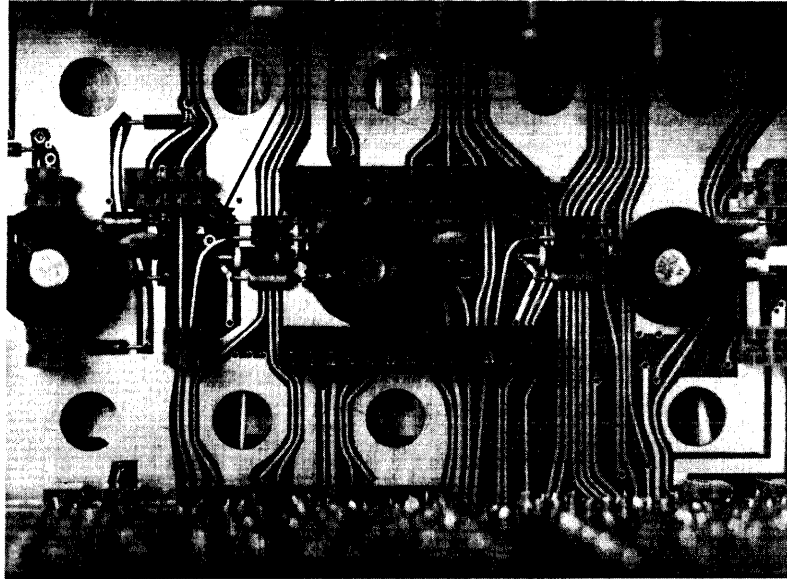

Figure 6.4
4. Connect one end of an 18 inch piece of insulated wire to test point "a" located on the mother board (see Figure 6.4). Thread the wire out between the front panel and the top of the chassis. Make sure the unconnected end of this wire does not short to the chassis or ground when the instrument is in operation.